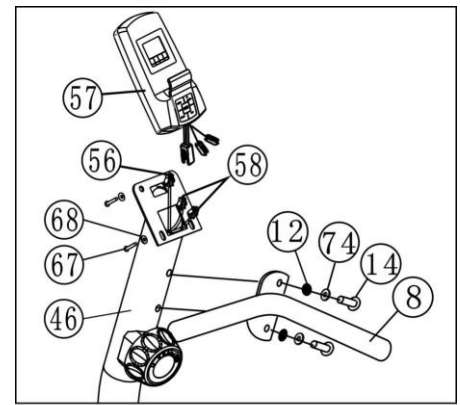

Figure 4
Connect the Computer wire (56) and the hand pulse wire I (58) to the wires that come from the Computer (57) and into front upright tube (46) twist with screws. Attach the Computer (10) to the top of Front upright tube (46). then tighten. (See figure 4)
Attach the front handle bar (8) to the Front upright tube (46) with two sets of M8\*20 bolts (14), Spring washer  $\varphi 8$  (74) and  $\varphi 8$  Arc washer (12) (See figure 4)